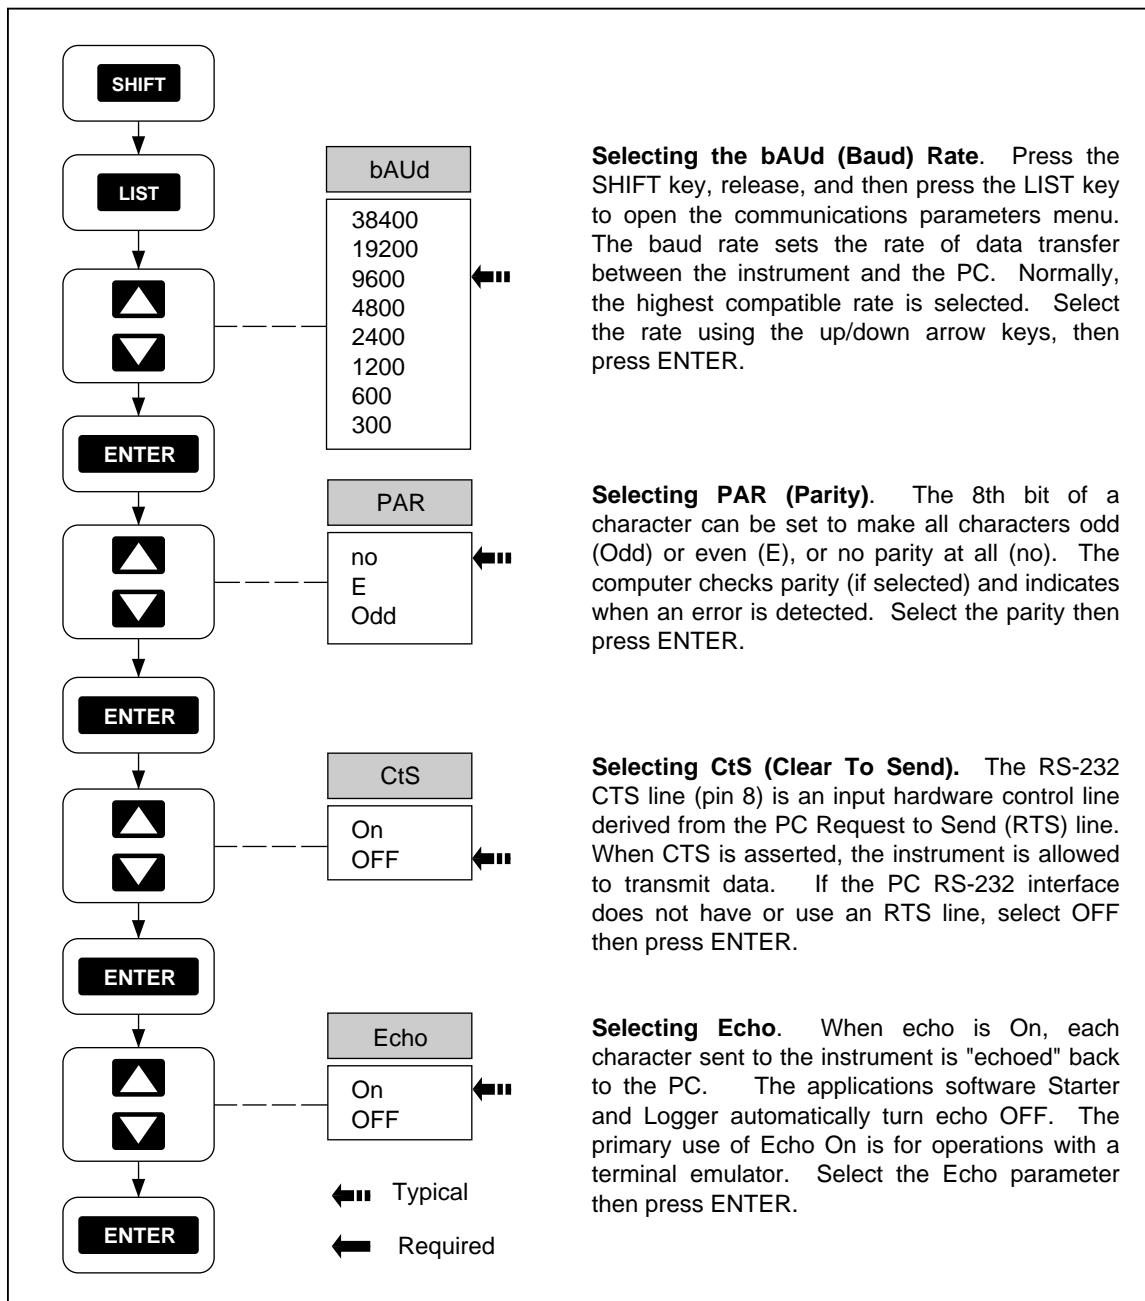

Figure 4-2. Configuring the Instrument for Computer Operations
Correct operation of the interface between the instrument and PC depends on the baud rate, parity, CTS (Clear To Send) and echo of the RS-232 interface parameters. Perform the procedure in Figure 4-2 to establish these parameters for the instrument. The instrument uses one stop bit, which is not selectable.
1. Configure the Data Bucket communication parameters, as described in Figure 4-2, for bAUd = 9600, PAR = no, CtS = OFF, and Echo = On.
5. In Terminal, request the Data Bucket to send its identification number by entering: *IDN? <Enter>. If *IDN? did not appear on the screen as the characters were entered, be sure the instrument RS-232 port is configured for Echo = On (Figure 4-2). If the wrong characters appear, there is an incompatibility in the COM port configurations (baud rate, parity, etc.). If everything seems normal, but characters still don't appear, check the RS-232 connection cable (see Appendix D). When the RS-232 link is operating correctly, the instrument returns an identification string and execution prompt similar to the following:
1. Configure the Data Bucket communication parameters, as described in Figure 4-2, for bAUD = 9600, PAR = no, CtS = OFF, and Echo = On.
4. In Terminal, request the Data Bucket to send its identification number by entering: *IDN? <Enter>. If *IDN? did not appear on the screen as the characters were entered, be sure the instrument RS-232 port is configured for Echo = On (Figure 4-2). If the wrong characters appear, there is an incompatibility in the COM port configurations (baud rate, parity, etc.). If everything seems normal, but characters still don't appear, check the RS-232 connection cable (see Appendix D). When the RS-232 link is operating correctly, the instrument returns an identification string and execution prompt similar to the following: